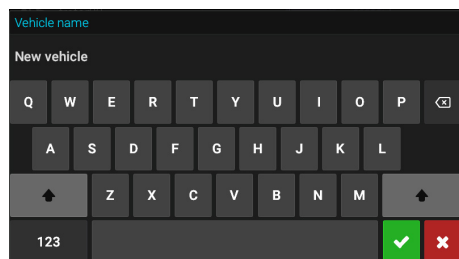

Fig. 14
-  Allows entering letters (Fig. 14)